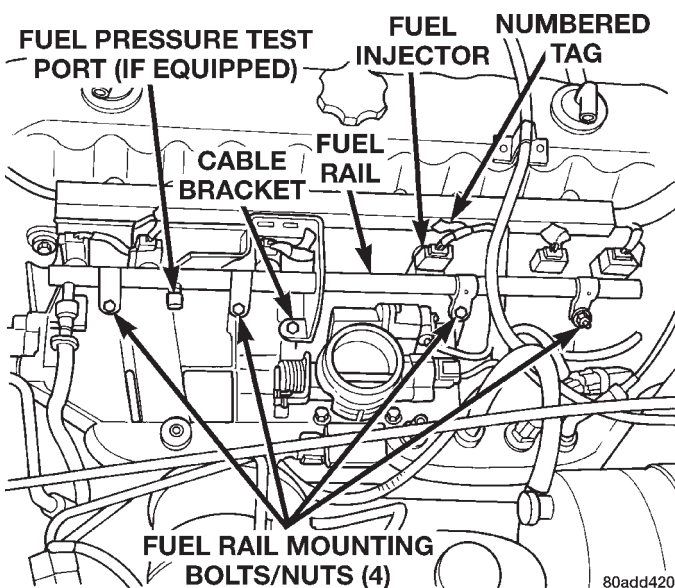

Fig. 31 Fuel Rail Mounting—4.0L Engine
- (1) Remove fuel tank filler tube cap.
- (2) Perform Fuel System Pressure Release Procedure as described in this Group.
- (3) Disconnect negative battery cable from battery.
- (4) Remove air tube at top of throttle body. Note: Some engine/vehicles may require removal of air cleaner ducts at throttle body.
- (5) Remove injector harness electrical connectors at each injector. Each injector connector should have a numerical tag attached identifying its corresponding cylinder (Fig. 31). If not, identify each connector before removal.
(6) Disconnect fuel supply line latch clip and fuel line at fuel rail. Refer to Quick-Connect Fittings in this group for procedures.
(7) Disconnect throttle cable at throttle body. Refer to Throttle Cable Removal/Installation in this group for procedures.
(8) Disconnect speed control cable at throttle body (if equipped). Refer to Speed Control Cable in Group 8H, Speed Control System for procedures.
(9) Disconnect automatic transmission cable at throttle body (if equipped).
(10) Remove cable routing bracket (Fig. 31) at intake manifold.
(11) Remove nut securing crankshaft position sensor pigtail harness to fuel rail mounting stud. Remove clamp and harness from fuel rail mounting stud.
(12) Clean dirt/debris from each fuel injector at intake manifold.
(13) Remove fuel rail mounting nuts/bolts (Fig. 31).
(14) Remove fuel rail by gently rocking until all the fuel injectors are out of intake manifold.